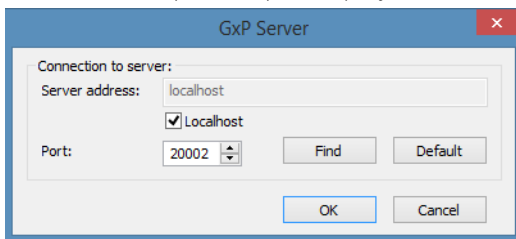

Figure 4-3: Octet® GxP Server Dialog Box
2. Click on... (**Browse**) to display the Octet® GxP Server dialog box (Figure 4-3).